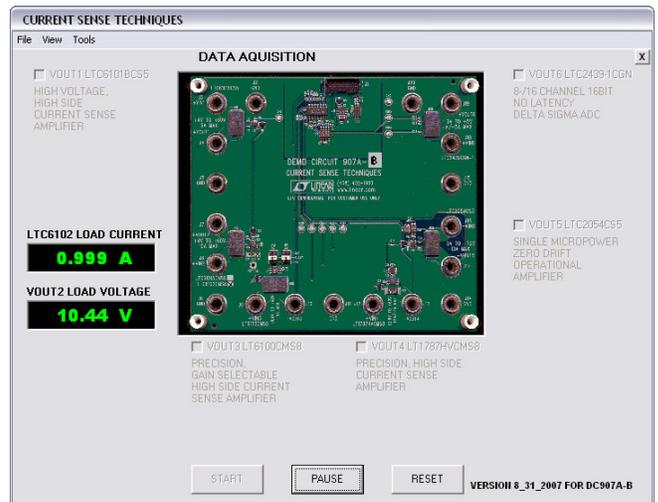

Figure 6. LTC6102 lsenseB.exe display (Current and Voltage at +VOUT2)
4. Mouse-click a check in the VOUT2 LTC6102CMS8 enable box and then mouse-click the START box to begin data-acquisition (with DC907A-A and lsense.exe, this field is labeled for the LTC6101ACMS8). The display will then show, as in Figure 6, a continuously updated current and voltage as furnished to the load connections. To suspend updating, mouse-click the PAUSE box. The RESET box returns the program to the initial setup state. A red readout represents an out-of-range result or condition that may be beyond safe limits. A yellow readout is acceptable, but indicates being near a limit. Green readouts are well within nominal conditions.